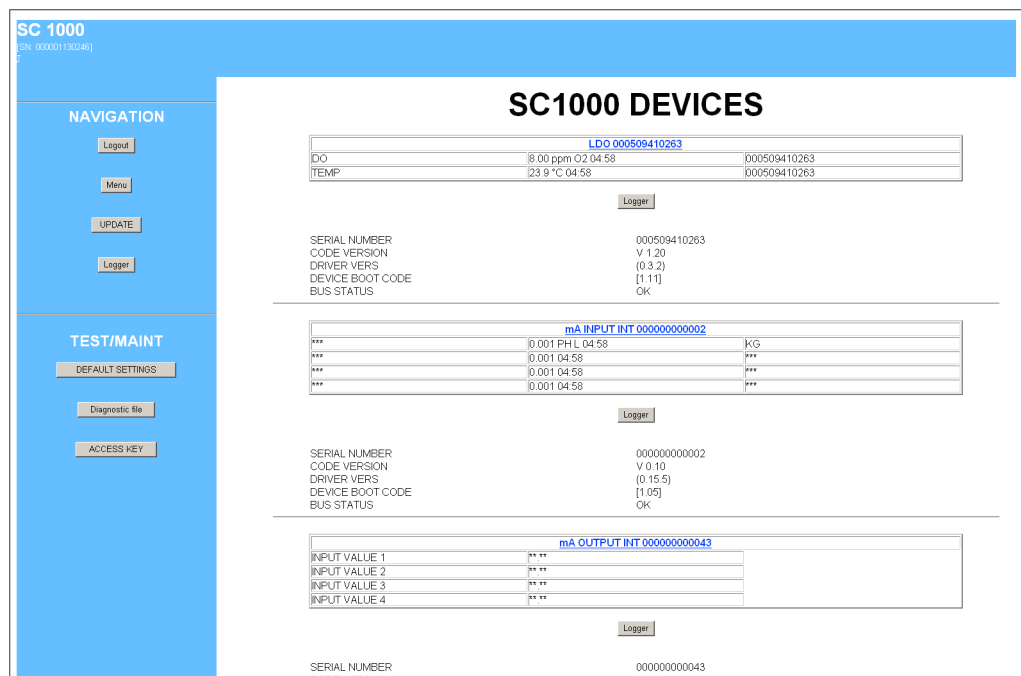

Figure 48 Browser access screen
6. The browser access screen is displayed (Figure 48 and Table 20).